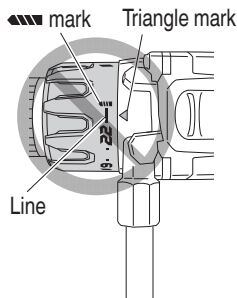

Fig. 17
- Do not use with the clutch dial set at the line between the number “22” and the drill mark “”. Doing so may cause damage (See Fig. 17).